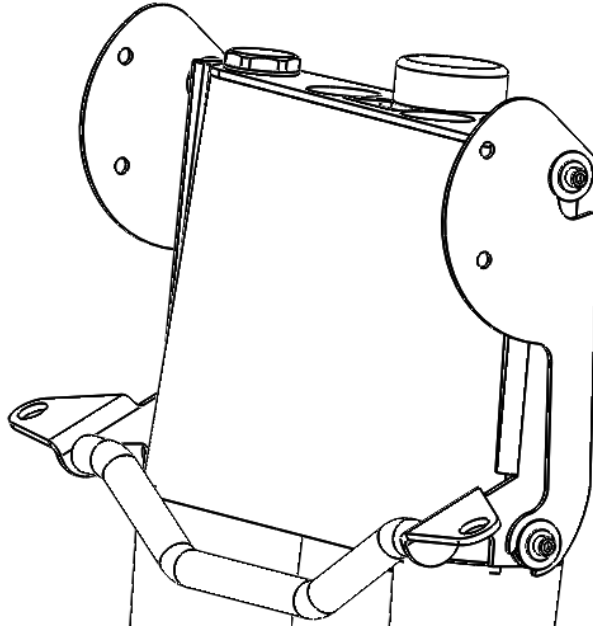

Figure 5: Fairing brackets fully in place. Note: Fairing is attached but not shown in figure.
5. Start placing the bottom of the fairing brackets into the gap between the bottom bushings, lowering the fairing until you can get the top slots of the brackets to go into the gap between the top bushings. The fairing should now be able to tilt back towards the bike and drop down another ½” or so to bottom out in the bracket slots. See Figure 5. Note: Fairing is attached to the brackets but not shown in the figure.